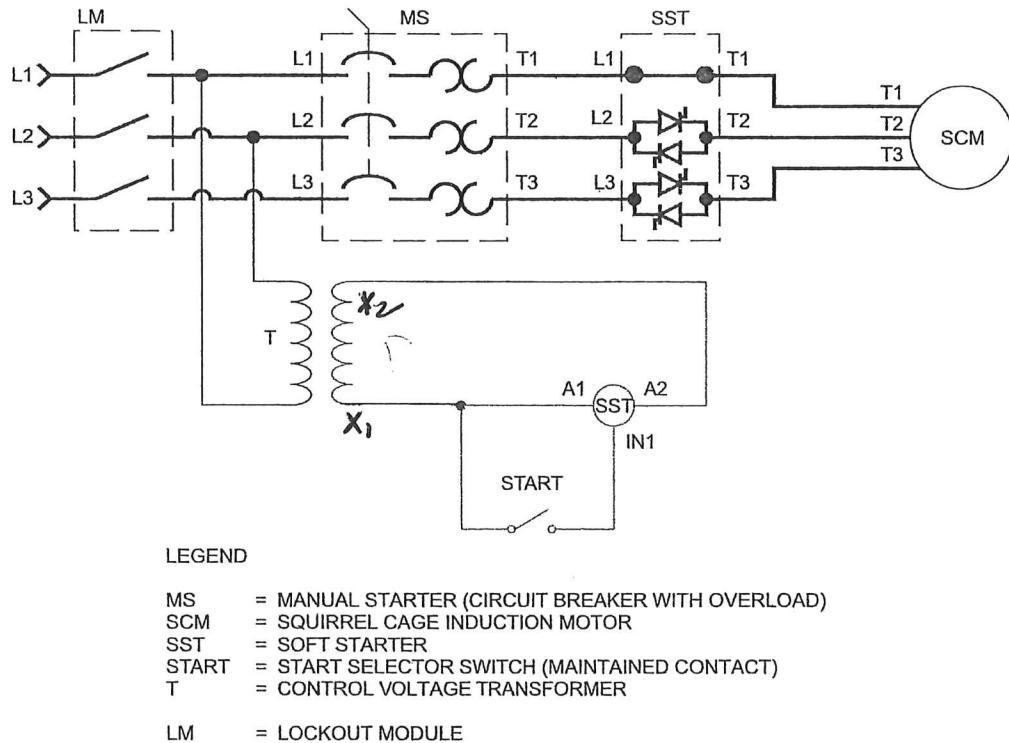

Figure 4 - SOFT STARTER CIRCUIT
A simple soft starter control circuit is presented in Figure 4. When power is applied to the circuit, supply voltage is applied to the Soft Starter, as shown by the READY indicator on the device. When the Manual Starter is turned on, the Soft Starter input terminals are energized. When the START selector switch actuates, the Ramp-up function begins, and the READY indicator begins flashing. The motor is then gradually energized. Once the READY light turns off and the RUN indicator turns on, it is a sign that the device has switched to normal (full voltage) running operation.
- 1) Wire the motor with soft starter as shown in figure 4.